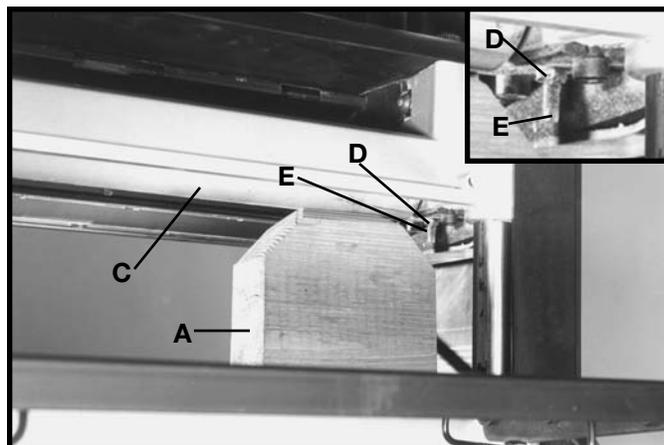

Fig. 38
5. Move the gage block (A) Fig. 38, **minus the feeler gage**, under one end of the outfeed roller (C) as shown. The bottom of the outfeed roller should just touch the top of the gage block.
6. If the height of the outfeed roller must be adjusted, loosen locknut (D) Fig. 38, and turn adjusting screw (E) until outfeed roller just touches the gage block (A). Tighten locknut after adjustment is made.
7. Repeat this adjustment on opposite end of outfeed roller (C) Fig. 38.